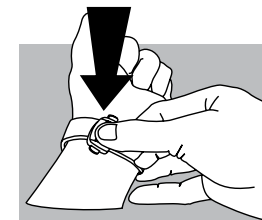

fig. 2
**Closing (fig. 2):** put the watch on your wrist and close the clasp by pushing on it with your thumb until you hear a click. (fig. 2).